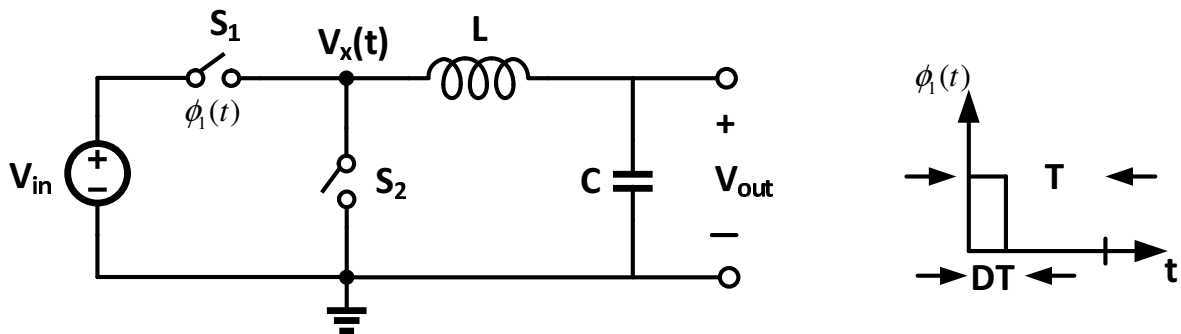

Figure 16: Switched Circuit.
4. Consider the circuit shown in Fig. 16. The switches  $S_1$  and  $S_2$  operate in complimentary fashion. The figure also shows the switching function  $\phi_1(t)$  of switch  $S_1$ . Note that  $\phi_1(t)$  is periodic with period  $T$ . The switch  $S_1$  is turned on for a duration  $DT$  during every cycle. The quantity  $D$  is called duty ratio and is given by,